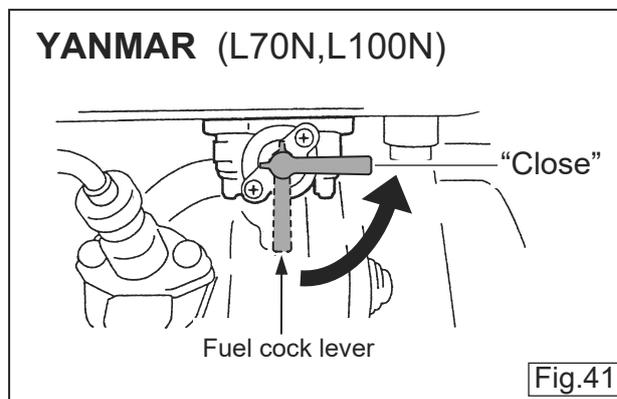

Fig.41
- 4 Shut the fuel cock.(Fig. 41)